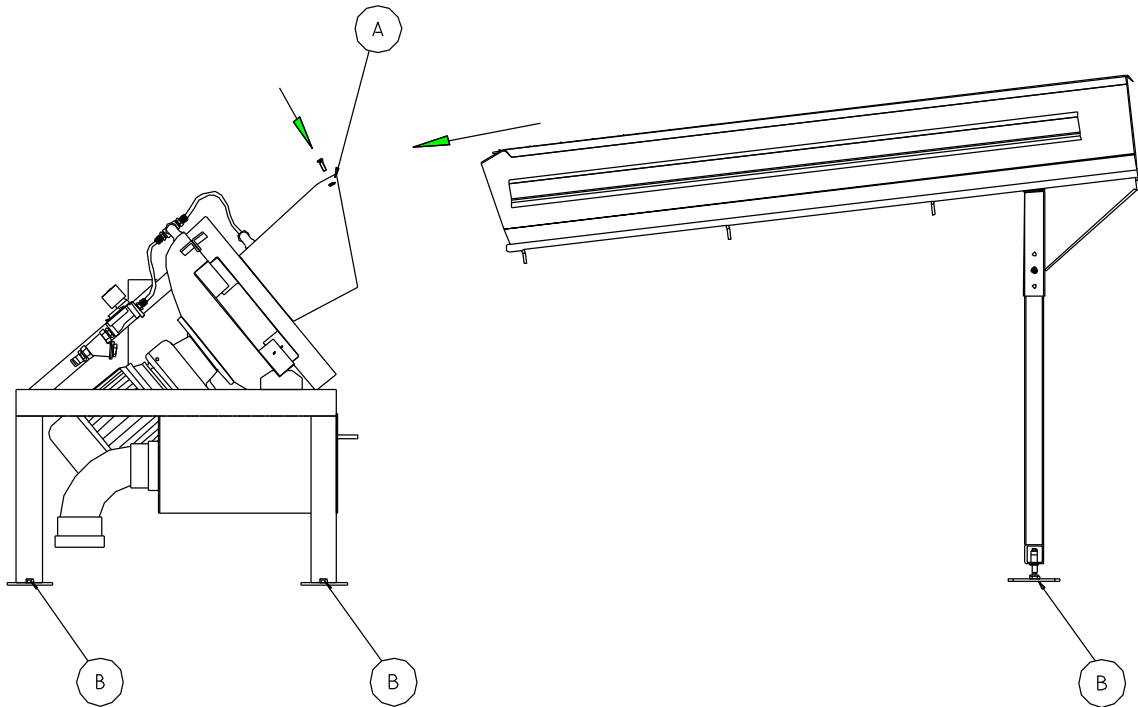

Figure 10: Assembly of BT 1300
- III. Fasten the ball tray to the washer body with the two enclosed screws. See Figure 10 at (A).
- IV. Screw all six feet to the foundation. See figure 10 at (B).